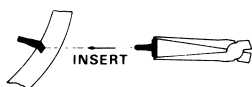

FIGURE 8
4. Using long-nose pliers, grab the head of the locking pin and insert into hole located on the side of the smoke alarm (see Figure 8).